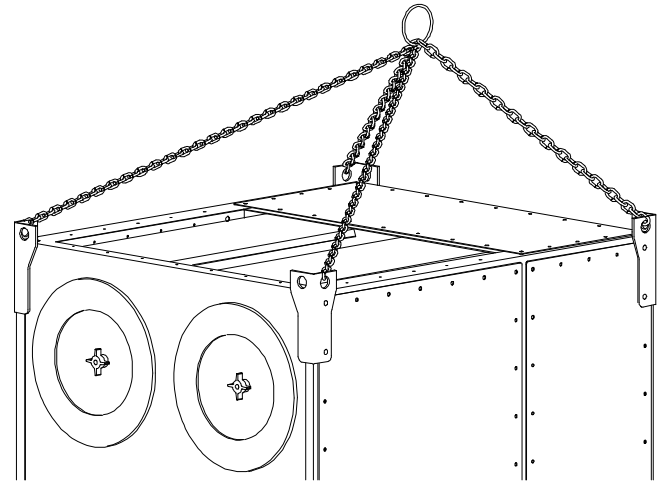

FIG. 1
2. Lift the unit with a lift truck or overhead crane using the four lifting lugs located at the corners of the unit (see FIG. 1).